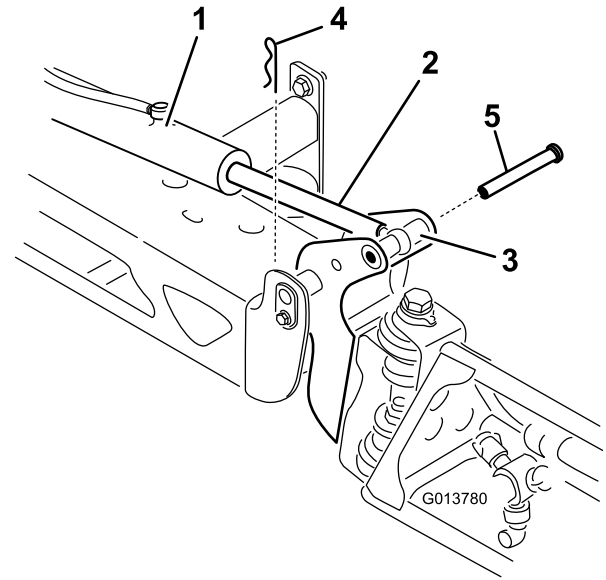

Figure 75
2. Remove the hairpin from the clevis pin (Figure 75).
3. Lift up on the section, remove the clevis pin, and slowly lower the section to the ground (Figure 75).
7. While supporting the spray section, insert the clevis pin through both boom pivot and actuator rod (Figure 75).